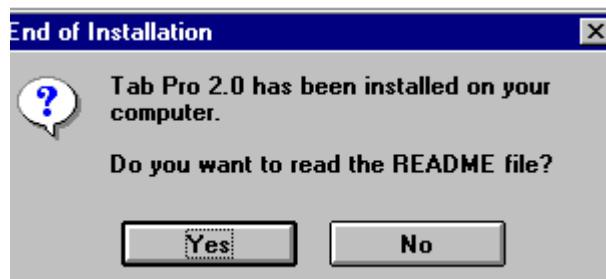

FIGURE 40. TabPro End of Installation Dialog
- 8.74 Touch the 'No' button on the 'End of Installation' dialog. See Figure 40.